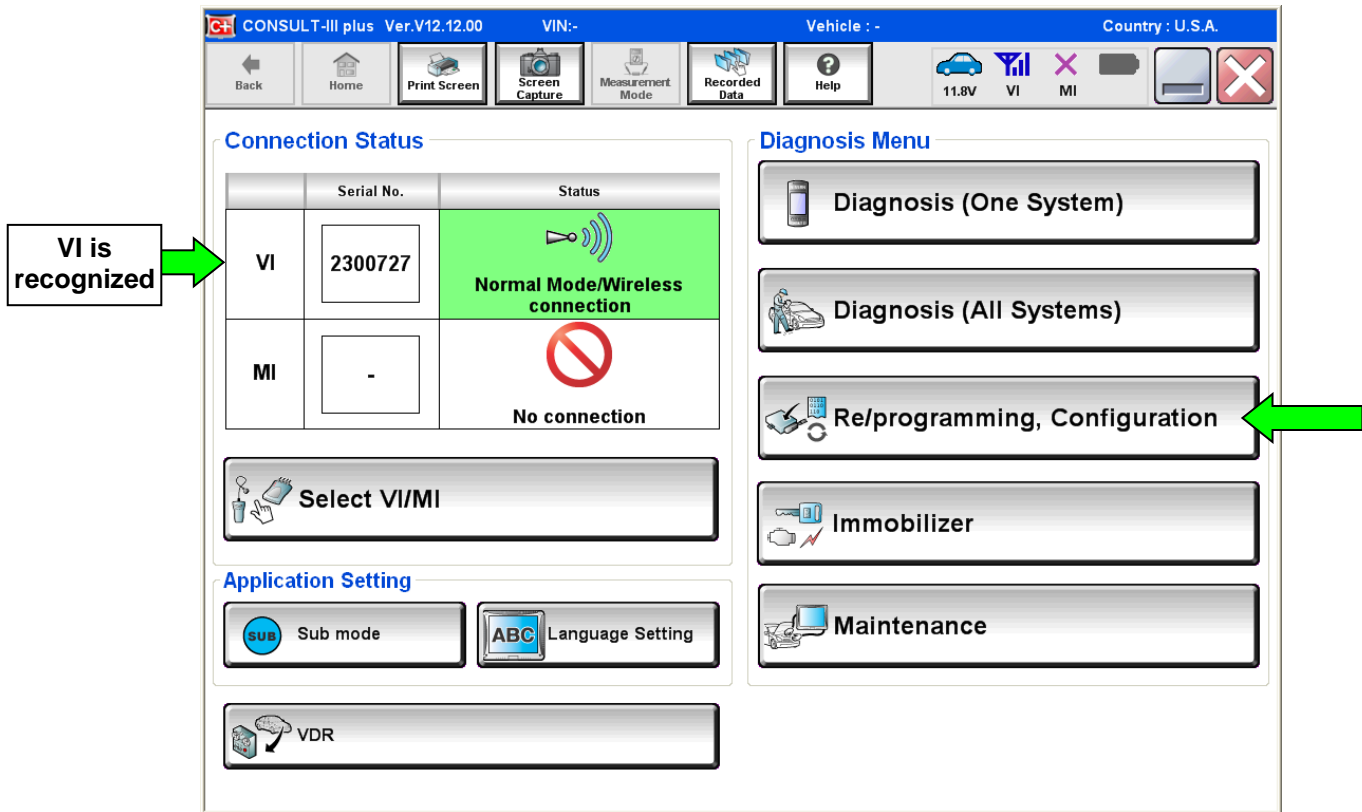

Figure 1
3. Wait for the VI to be recognized (Figure 1 on the next page).